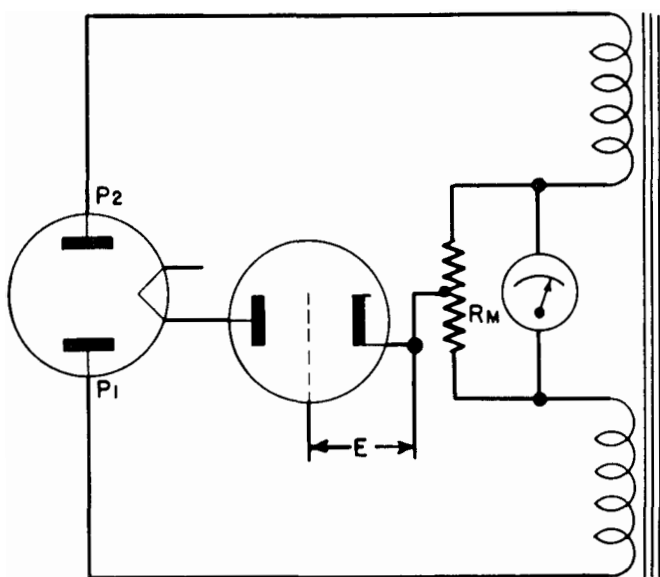

Figure 2-2. Basic Mutual Conductance Circuit Illustrating Theory
b. If the electron tube to be tested is substituted for the fixed load resistance, and a fixed bias E is applied to the tube as in Figure 2-2, the meter will still read zero because an electron tube under steady-state conditions acts like a fixed resistance.